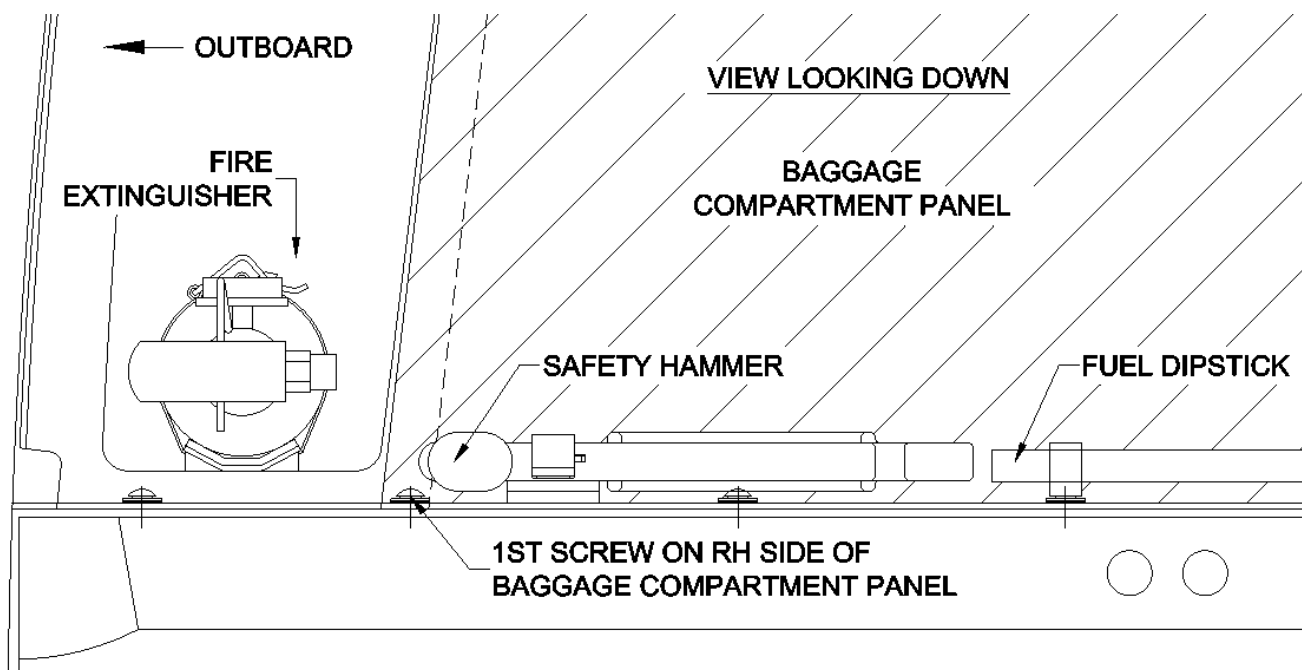

Figure 1
- 10.4** Position new safety hammer bracket (p/n 22-2550-63-01) onto the baggage compartment floor panel (reference figures 1 and 2):